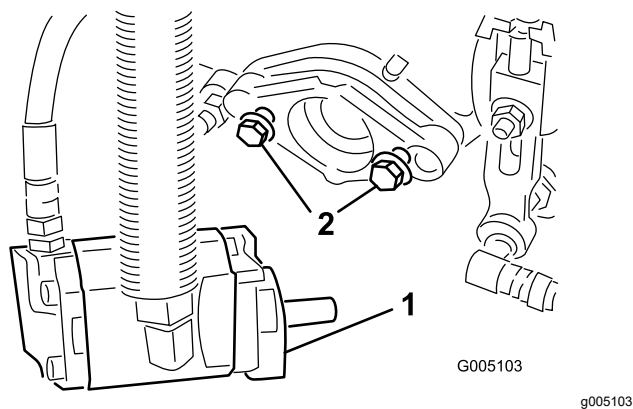

Figure 9
6. Ensure that there is approximately 13 mm (1/2 inch) of threads exposed on each reel drive motor mounting bolt (Figure 9).
9. Tighten the mounting bolts (Figure 9).